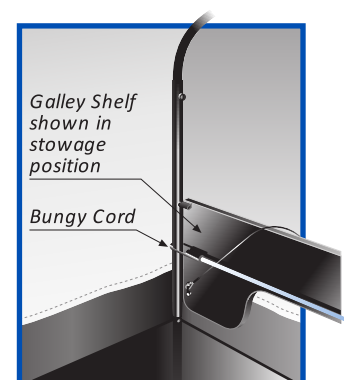

Fig. 4
- Restrain the shelf in this position by stretching the bungy cord across the front of the galley shelf and attaching a hook to each leg of the galley bow (Fig. 4).